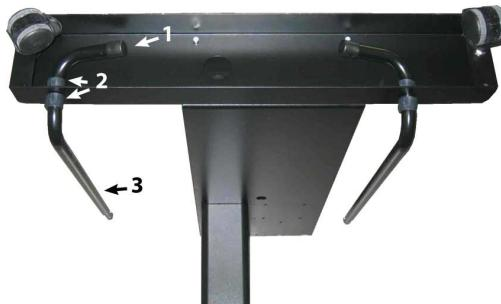

FIG 1-5
4. Attach on the left and right the 4 tubes for the basket as shown in figure 1-5 below. On each tube, put the end cap (1) and the two saddle clips (2) to fix the tube in its place. Position the shorter tube (3) at the rear side (side of the horizontal panel).